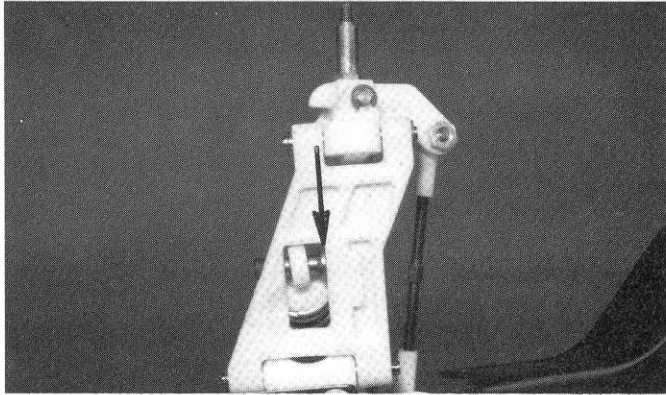

Fig. 109
□ **Fig. 109** The flat side of the ball should be towards the rear as the upper arrow shows. Now, back in Bag #6-1 you have 2 3/4" long screws that only have 1/4" of threads. Use these screws to mount the lower shock balls to the "A" arm, as shown.